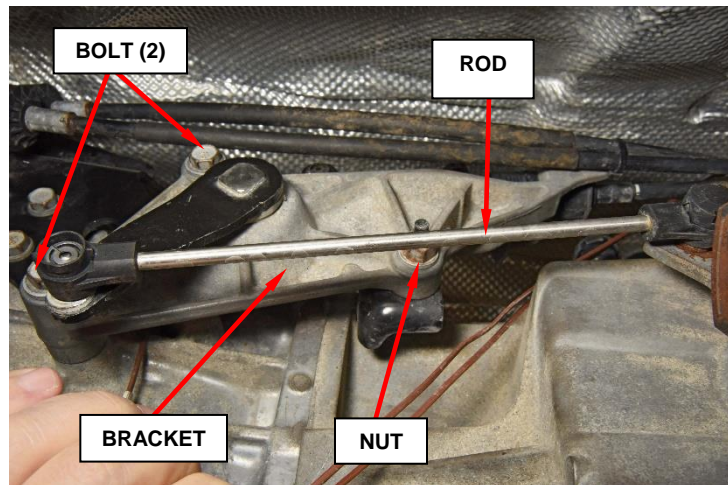

Figure 11 – Rod Bracket
16. Disconnect the rod from the bracket ball stud, then remove the two bolts and nut attaching the transfer case rod to the bracket and position aside (Figure 11).
14. Install the transfer case rod bracket and tighten the 2 bolts and nut to 24N·m (18ft. lbs.) (Figure 11).
15. Attach the transfer case rod to the ball lever, use channel lock style pliers to press the rod back on the lever (Figure 11).